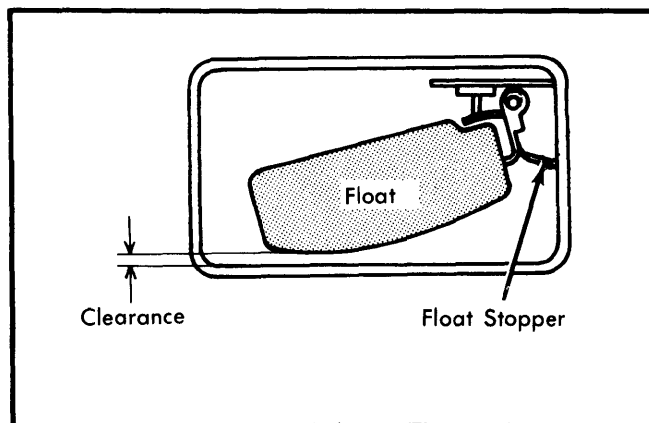

Fig. 5 Checking Float Drop Adjustment
3) Turn carburetor to its normal position (not inverted). Allow float to lower by its own weight. Measure clearance between bottom of bowl and float. See Fig. 5. Clearance should be .039" (1 mm). If not, bend float stopper until proper clearance is obtained.